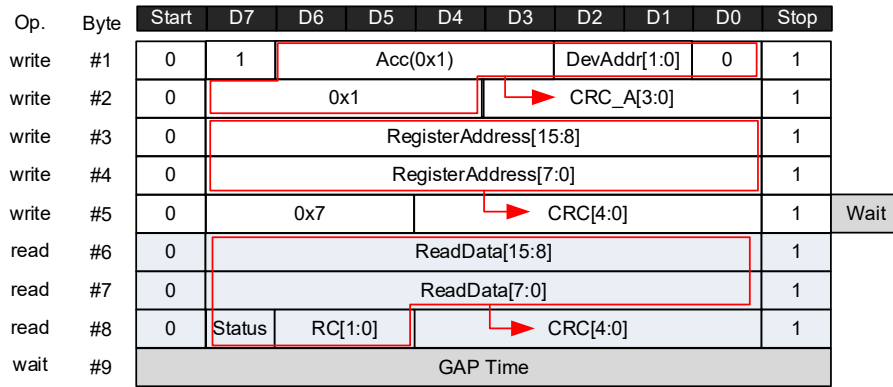

Figure 52. Register read mode frame
- 16-bit register read (Figure 52)
The Read Frame structure can be seen Figure 52 where: